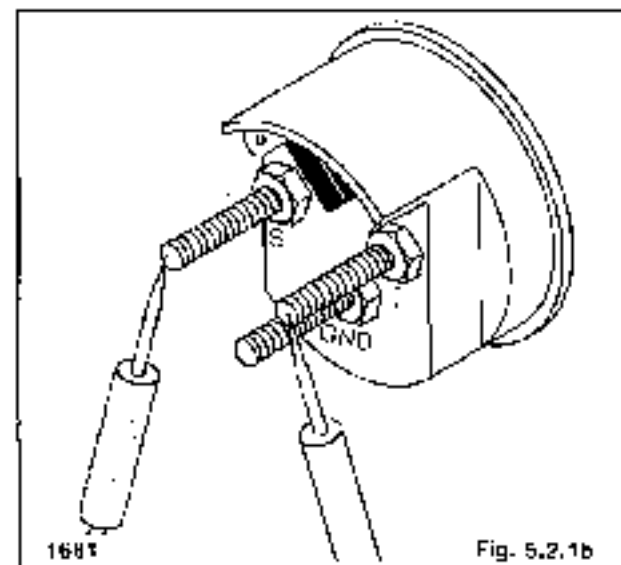

Fig. 5.2.1b
2. Remove the left-hand instrument panel. With the ignition off, connect one ohmmeter lead to the "I" terminal of the fuel gauge. Connect the other ohmmeter lead to the "S" terminal of the fuel sender (Fig. 5.2.1b).